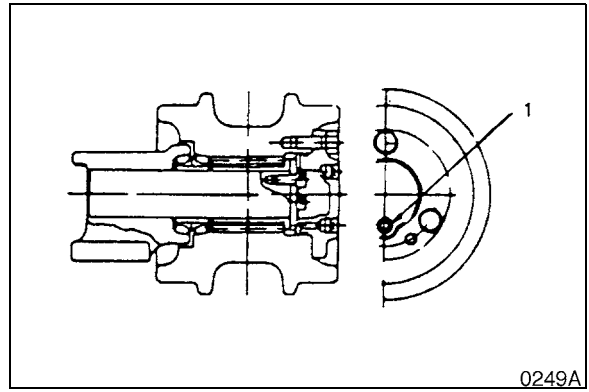

Figure 47
7. Tighten plug (1, Figure 47).